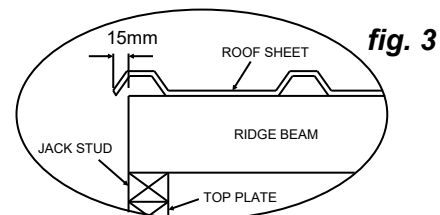

fig. 3
- Position the first Roof Sheet so that the top of the sheet is at the centre of the Ridge Beam and the side of the sheet over hangs the end of the Ridge Beam (fig. 3). Using 1 x 50mm Clout, predrill and nail through the rib into the top corner. Repeat above and nail the lower corner ensuring 15mm overhang.